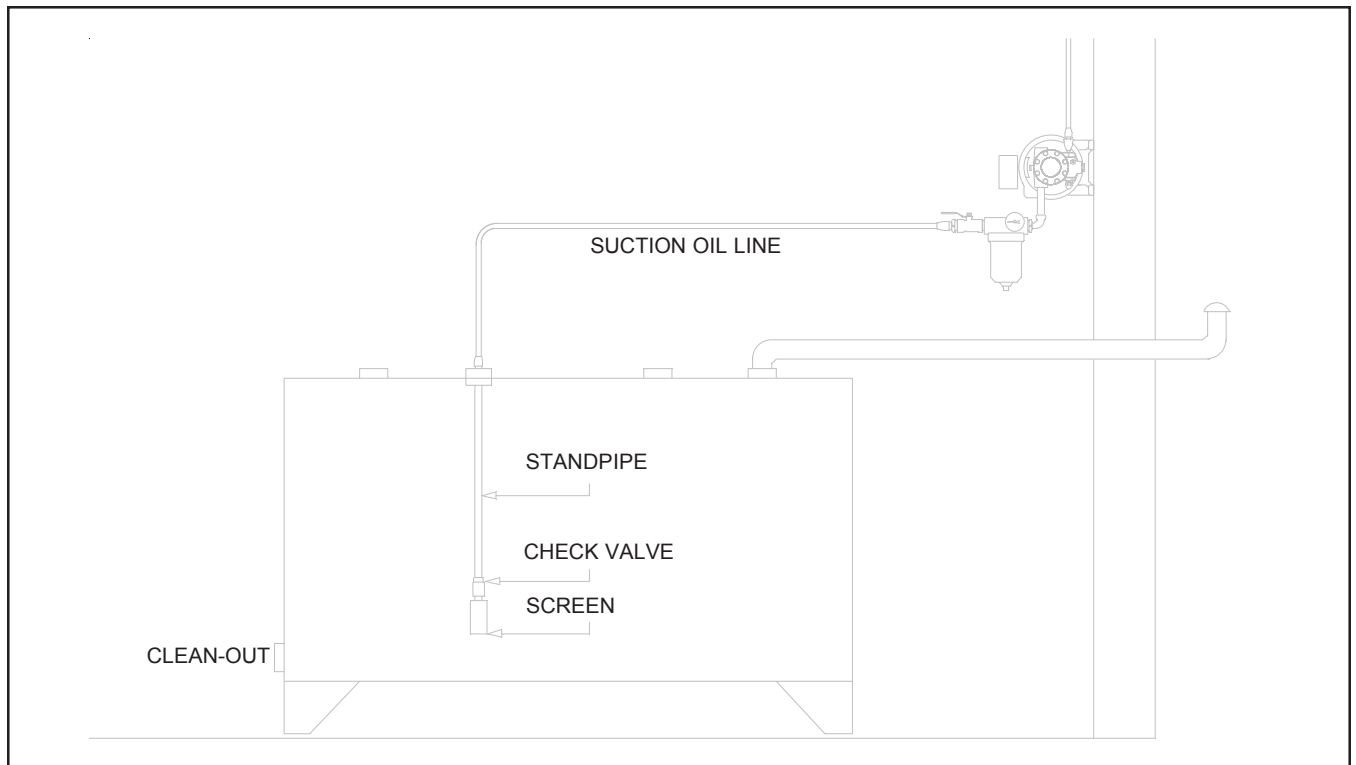

Figure 9C - Check Valve Detail
1. Refer to Figure 9C. Remove the standpipe from the tank.